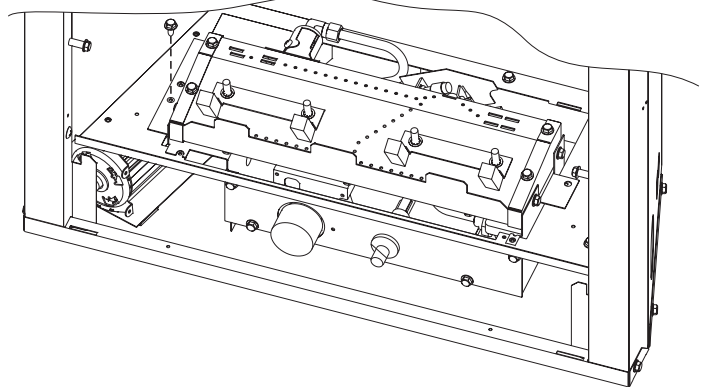

Figure 28
27. Attach burner assembly to blower shield with one (1) 10 x 1/2" screw. See Figure 28.